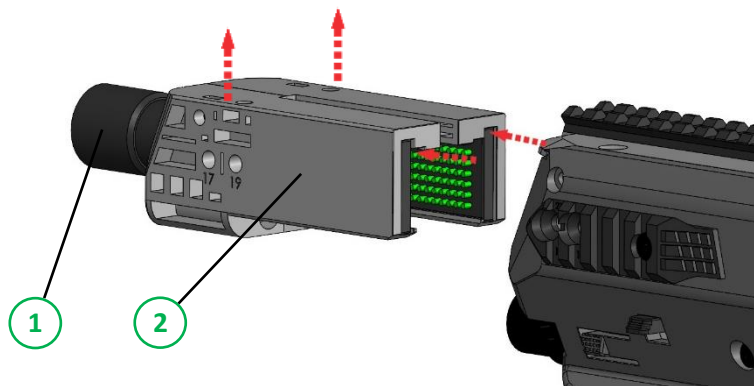

FIGURE 49
Pull the front aluminum tube (1) out with the housing on (2) (FIGURE 49) (Be sure to keep it upright to avoid losing the captive nuts inside the front aluminum tube housing).